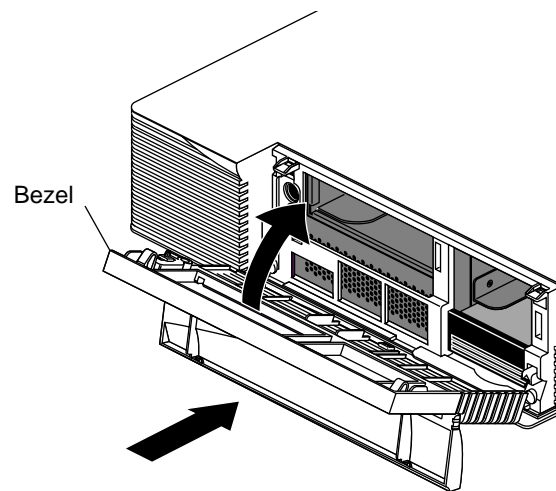

Figure 2-32 Replacing the Bezel
- Place the tabs on the bottom of the bezel into the grooves in the front of the chassis, as shown in Figure 2-32.